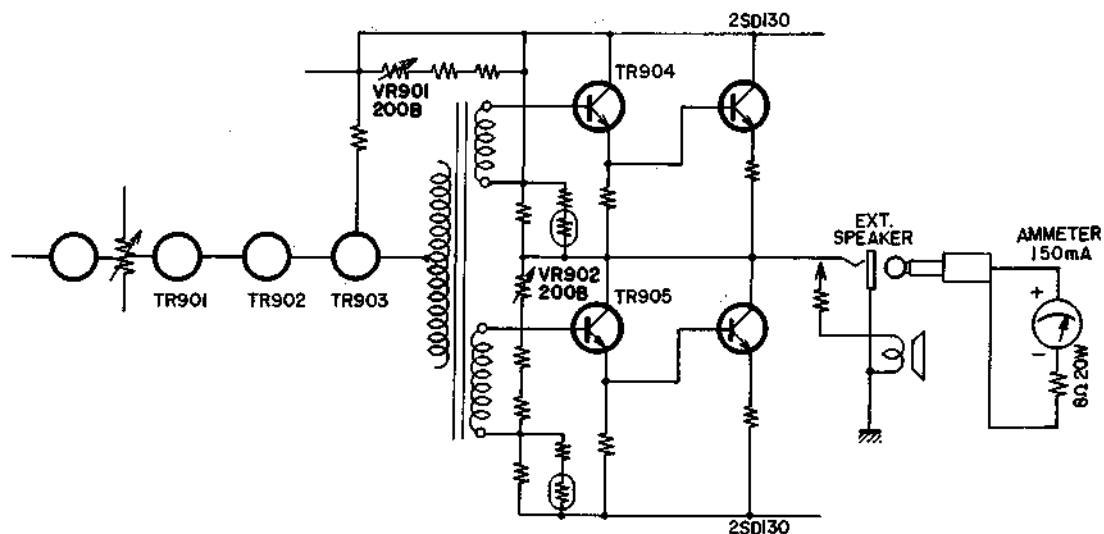

Fig. 1
Connect an audio oscillator to the line output jack, depress "Tape" Button, and record a 16 KHz signal at a -10 dB recording level. Adjust screw (f) (Figure 1) so that the indicated V.T.V.M. value applied to the line output jack is maximum.
- As shown in Fig.1, connect the AM Meter (100 mA-150 mA scale) and a resistor (8Ω 20W) to the External Speaker Jack.